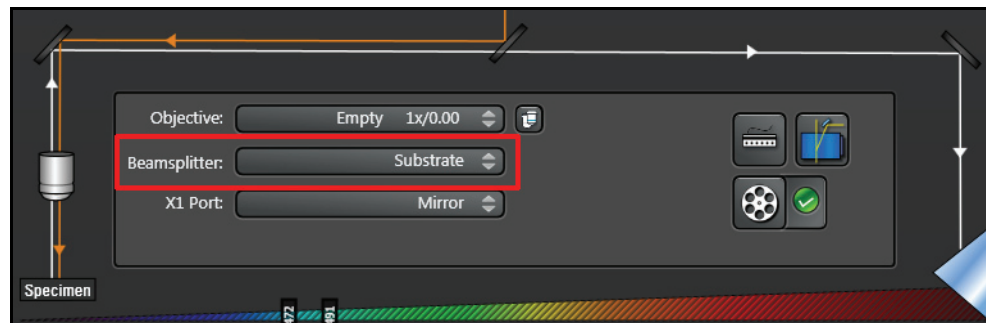

Figure 103: Setting the beam splitter to substrate
6. For beam splitter systems, set the **beam splitter** to **substrate** (**Figure 103**).